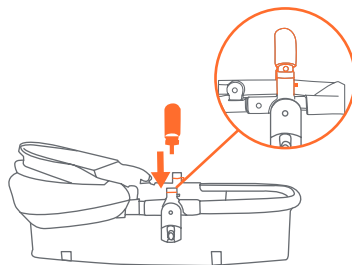

Fig. 4a
- 4) • Attach the bumper bar by lining up anchors with the slots on the seat. Push until it locks into place (Fig. 4a).